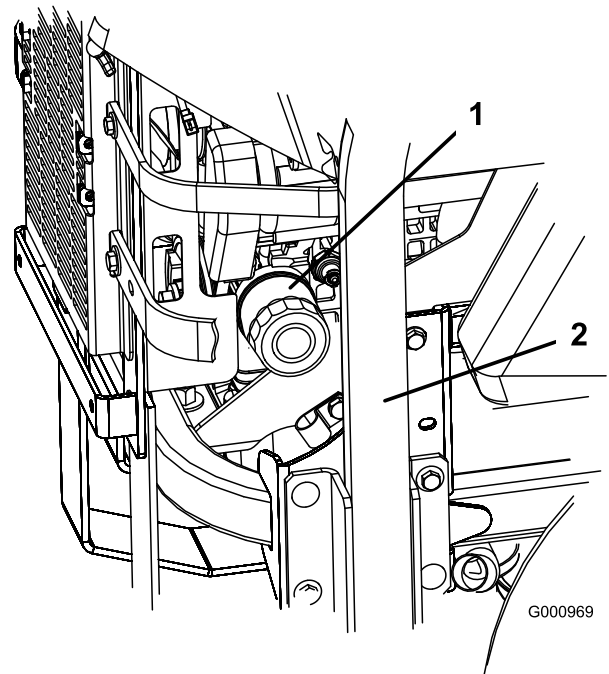
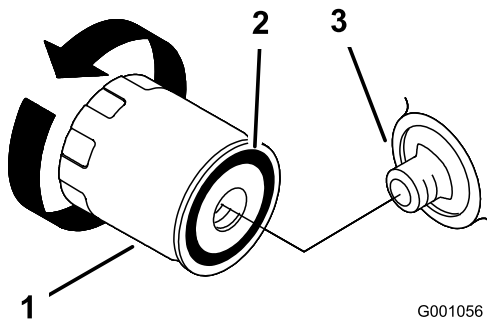

Figure 46
Figure 47
3. Turn the filter counterclockwise to remove it (Figure 46 and Figure 47).